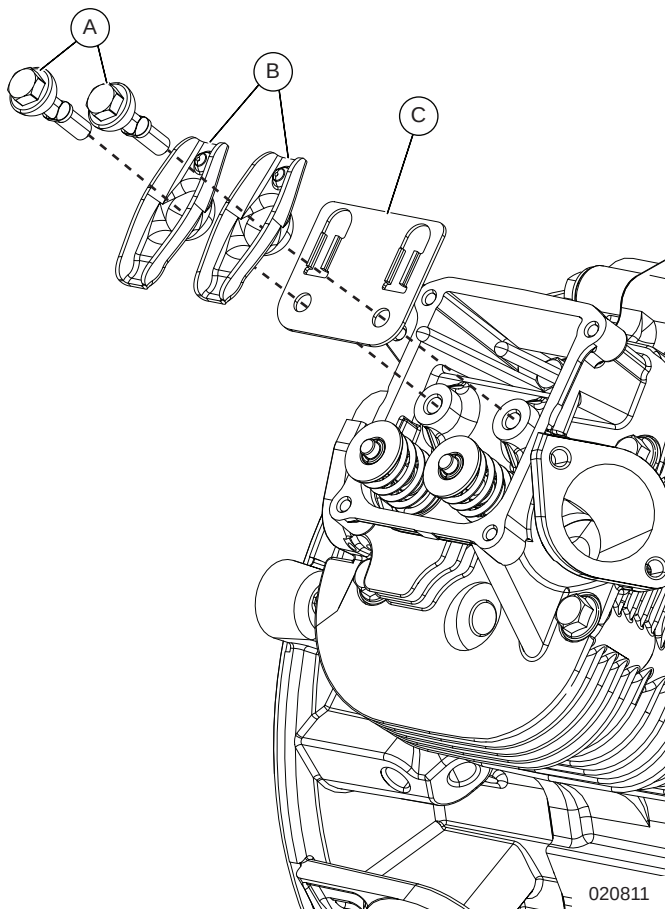

Figure 12-8. Install Rocker Arm into Cylinder Head
2. See Figure 12-8. Install pushrod guide plate (C), rocker arms (B), and rocker arm pivot studs (A) loosely onto cylinder head. Verify ball end of